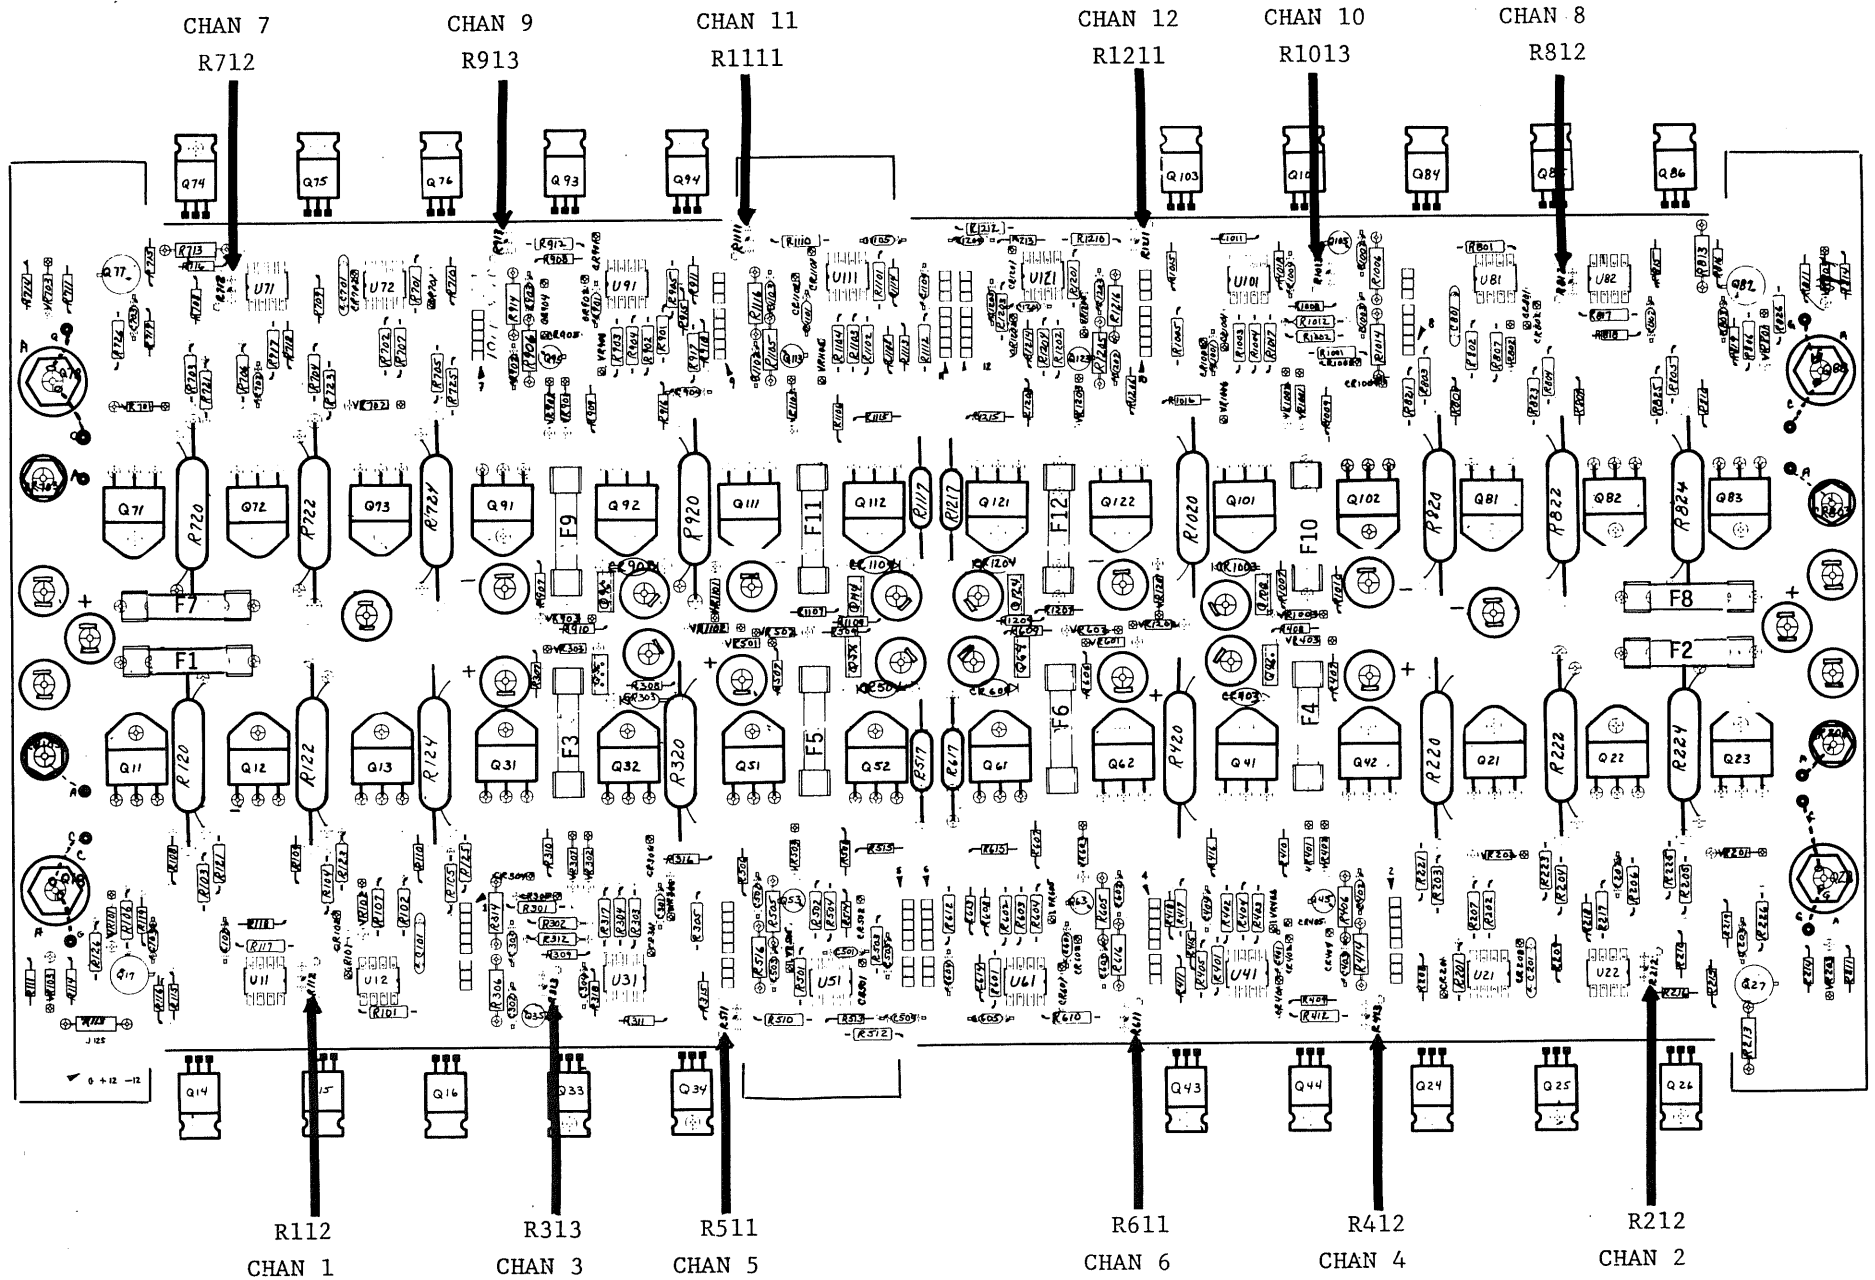

Figure 4-5. Main Board Adjustment Locations
3. **(For each position) Use:** The Null Offset Pot indicated in Figure 4-5 for the channel being adjusted.